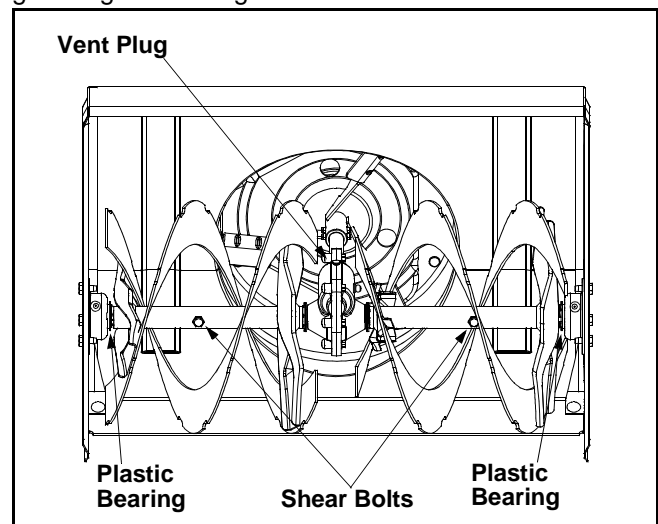

Figure 18
At least once a season, remove the shear bolts on the auger shaft. Spray lubricant inside the shaft. Also lubricate the plastic auger bearings at least once a season on the end of the auger shaft with a standard grease gun. See Figure 18.
- The augers are secured to the spiral shaft with two shear bolts and hex lock nuts. If you hit a hard foreign object or ice jam, the snow thrower is designed so that the bolts may shear. Refer to Figure 18.